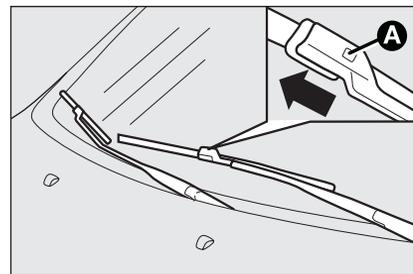

fig. 12
- press tab **A-fig. 12** of the coupling spring and remove the blade to be replaced from the arm;